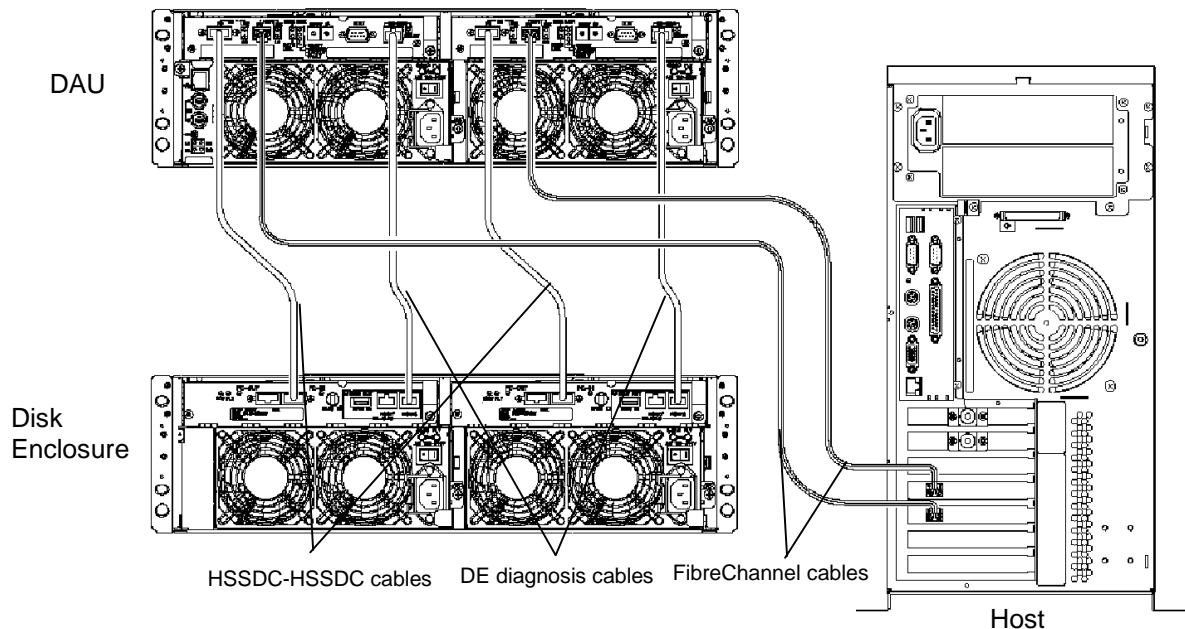

Figure 2-9. Connecting the Disk Array Unit
The following sections provide information for connecting the DAU to the Host server and the optional disk enclosure. Figure 2-9 show a typical DAU installation and includes cabling for the optional disk enclosure.
1. Connect the disk array unit with the host using the two supplied FibreChannel cables. Push the connector at either end of the cable into the FC connector (HOST-FC) of the disk array controller (CONT0) until a click is heard. The FC cable has the same connectors at both ends. Either connector may be connected to the controller. See Figure 2-9.
1. Connect either end of the HSSDC-HSSDC cable into the DE-FC connector (CONT0) on the disk array unit until a click is heard. The HSSDC-HSSDC cable has the same connectors at both ends. Either connector may be connected to the controller. Connect the other end of the HSSDC-HSSDC cable into the FC-IN connector on adapter 0 (ADP0) of the disk enclosure until a click is heard. See Figure 2-9.
3. Connect either end of the DE diagnosis cable into the DE-DIAG connector of the controller (CONT0) until a click is heard. The DE diagnosis cable also has the same connectors at both ends. Either connector may be connected to the controller. Connect the other end of the DE diagnosis cable into the PORT0 connector on adapter 0 (ADP0) of the disk enclosure until a click is heard. See Figure 2-9.